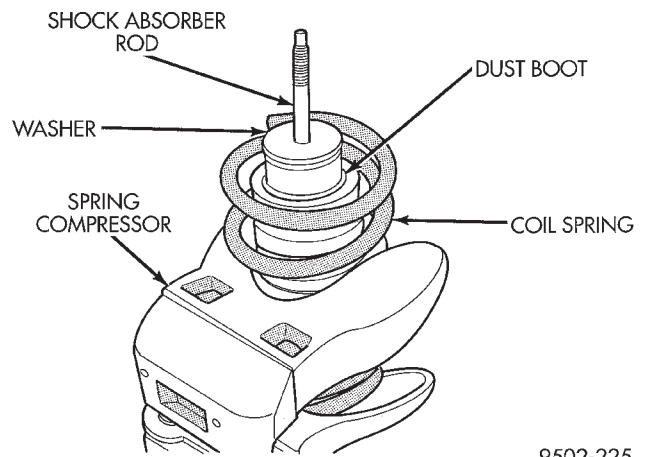

Fig. 58 Shock Absorber Rod Upper Washer
(9) Remove the washer from the top of the dust shield and shock absorber rod (Fig. 58).
(7) Install the washer on rod of shock absorber assembly and on top of dust shield (Fig. 58).